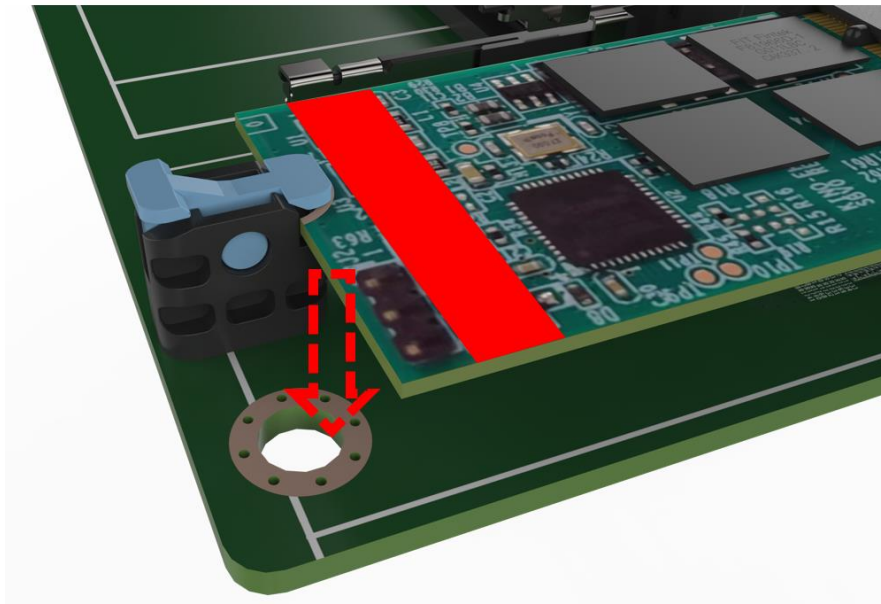

Figure 3-8: Securing the M.2 card
Step 5: Secure the M.2 card. Press down the M.2 card to fix it (Figure 3-8).